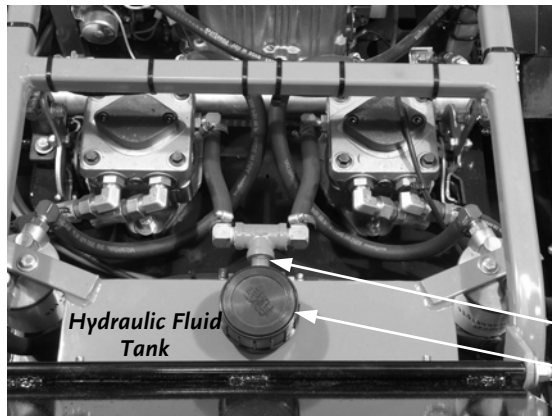

Figure 7
1. Lift the Driver's Seat to locate the Hydraulic Fluid Tank (*Figure 7*).
2. Remove the Fill Cap and check that the fluid level is about 1/4"-1/2" from the bottom of the Feeder Tube on the back of the Hydraulic Fluid Tank (*Figure 7*).